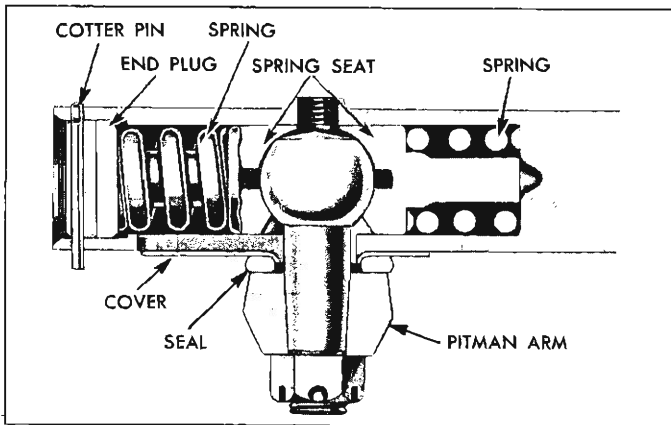

Fig. 6—Cross Section of Relay Rod Ball Joint
1. Remove cotter pin from end of relay rod, then using a drag link bit in end plug slot, tighten end plug until springs are compressed and plug bottoms (fig. 6).